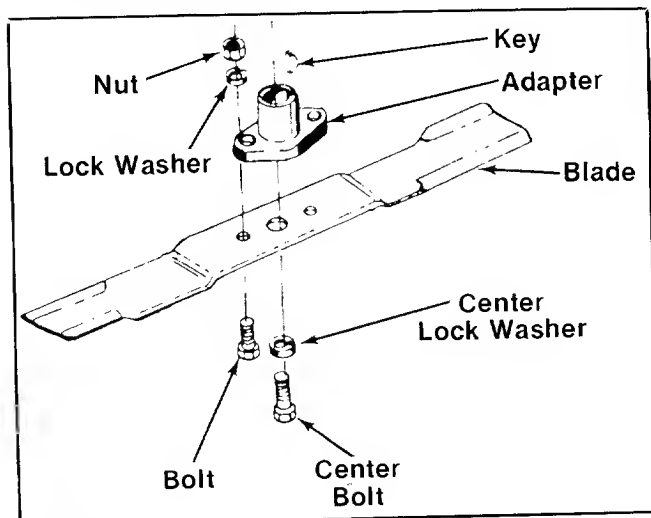

FIGURE 15.
1. Remove the large bolt and lock washer which holds the blade and adapter to the engine crankshaft. See figure 15.